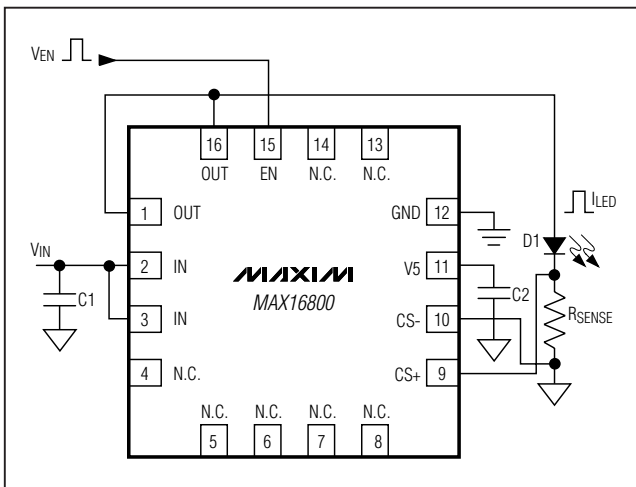

Figure 1. Pulse Application with V_{IN} at a Constant Voltage
The MAX16800 provides pulsed or chopped current dimming. Generally, high-brightness LEDs are binned to match at their full-rated current; however, LEDs from the same bin exhibit poor matching at currents other than full-rated current. To achieve uniformity, HB LED manufacturers recommend PWM pulsing of the LED current at their full-rated value. There are two methods for producing a PWM output. One method is by pulsing the enable input (EN) while having a constant voltage at IN. The other method is to connect EN to IN and pulse both EN and IN. Both methods generate a regulated-amplitude PWM current (variable duty cycle) that can provide control over the LED brightness (see Figures 1 and 2).